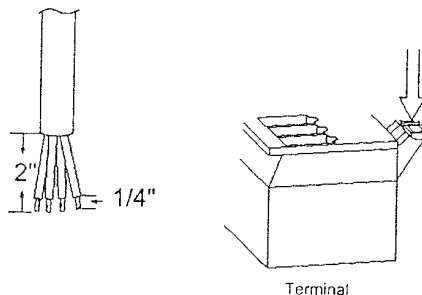
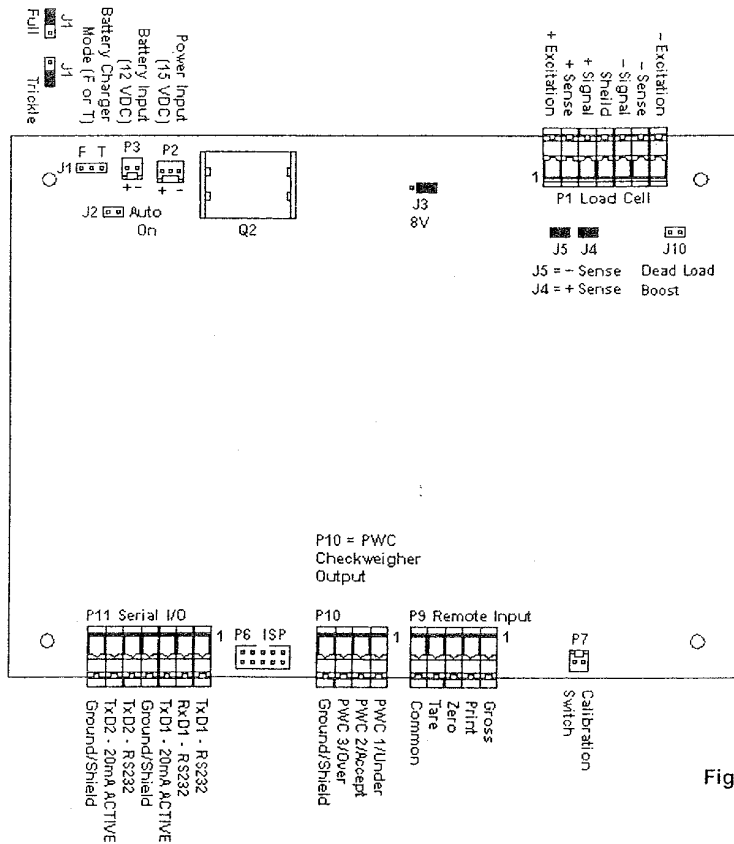

Figure No. 3
Figure No. 6
3. Remove 2" of the outer insulation jacket then remove 1/4" of insulation from each of the 4 wires and shield without sense leads or 6 wires and shield with sense leads (refer to figure No. 3).
3. Connect each of the wires to terminal block P1 referring to the labels on the circuit board for terminal connections. Refer to Figure No. 6 for terminal block location.
For installations with over 30 feet of cable between the indicator and the load cells, sense wires should be used. The sense wires must be connected between the +SENS, -SENS terminals on the indicator and the +EXCITATION, -EXCITATION wires of the load cells or the +SENS, -SENS terminals of the load cell trim board or the section seal trim board. For the indicator to use the sense wires, the +SENS jumper J4 and the -SENS jumper J5 must be open (see Figure No. 6).
3. Remove 2" of the outer insulation jacket then remove 1/4" of insulation from each of the wires (refer to Figure No. 3).
4. Connect each of the wires to the Serial Data terminal block (P11) referring to Figure No. 6 for terminal block locations.
Included with the I/O are 4 programmable inputs that may be used to remotely (up to 100 feet) initiate various functions within the indicator. These inputs are accessed via a terminal block (P9) on the back of the PC board (see Figure No. 6). The 4 inputs are defined as follows:
To connect the control cable to the preset weight comparator/checkweigher logic level output connector P10, first loosen the gland connector located on the back of the 210 on the right side. Refer to Figure No. 6 for the exact location of this connector. Slip the cable through this connector and into the enclosure. Remove 2 inches of the cable insulating jacket then 1/4 inch of insulation from each of the internal wires (refer to Figure No. 3). Make the proper terminations on terminal block P10. To terminate a wire, first press down on the terminal block release bar, insert the wire into the terminal and remove pressure from the release bar locking the wire in place.